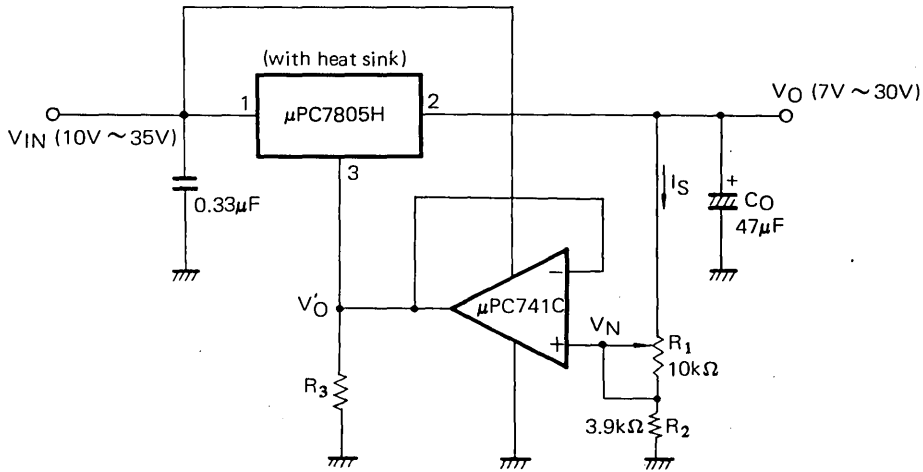

Fig. 15 Variable output power supply (I)
Assuming the output voltage of the operational amplifier be V'_O and the current flowing into the output split resistor of the regulator be I_s in Fig. 15, the non-inverting input terminal voltage is shown by equation (11).